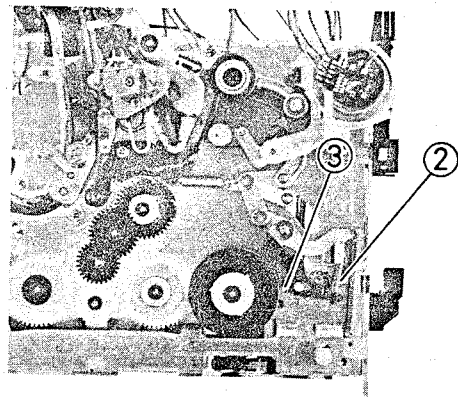

Fig. 2-97 Take-up Sub Brake Removal
Take-up Sub Brake Removal (Fig. 2-97)
2. Remove the take-up sub brake spring. (See Fig. 2-97)
3. Release one (1) tab.